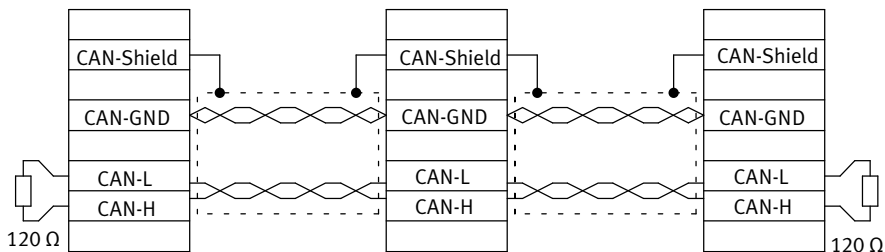

Fig. 2.1 Cabling example
- The individual nodes of the network are connected point-to-point to each other, so the CAN cable is looped from controller to controller (➔ Fig. 2.1).